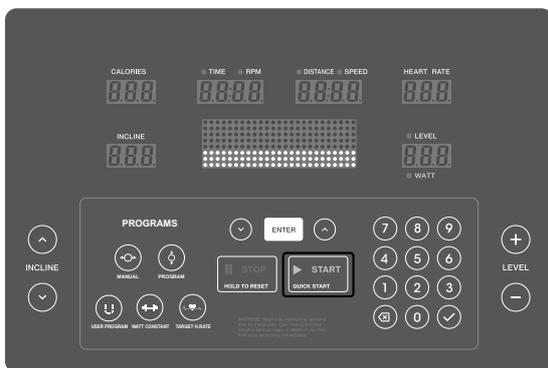

FIGURE 1
1. Press START to begin the session (Figure 1).